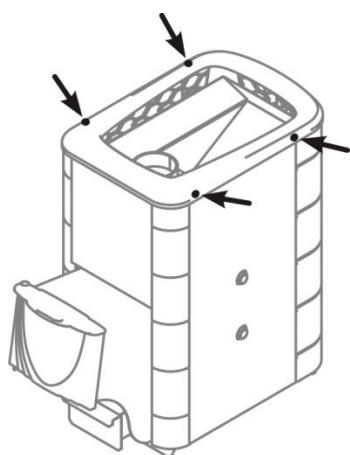

Figure 9. Disassembling of «Tunguska» sauna stove convector frame
1. Remove the convector frame by unscrewing 4 self-drilling screws (fig. 9);